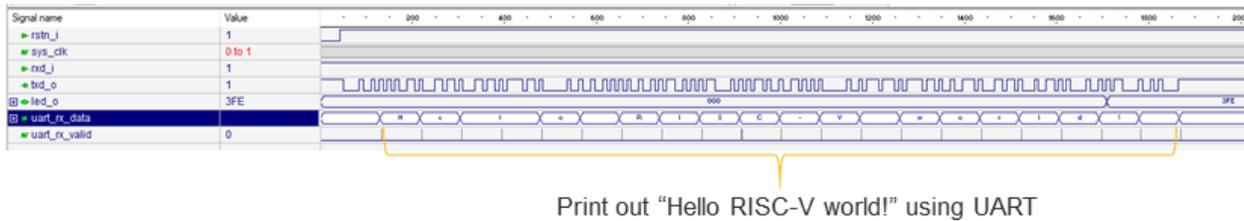

Figure 3.23. Waveform of Hello World Project
- Check the waveform. Following is the waveform (Figure 3.23) generated from Hello World project.
The Hello World Project is designed to print some strings using a top-level UART port. The testbench instantiates a UART slave to receive these data. Each byte (refer to `uart_rx_data` shown in Figure 3.23) can be checked using ASCII format. Meanwhile, this UART Slave also supports sending the data to Design Under Test (DUT). The data is stored in a text file and enabled by `STIMULUS_GEN` parameter.